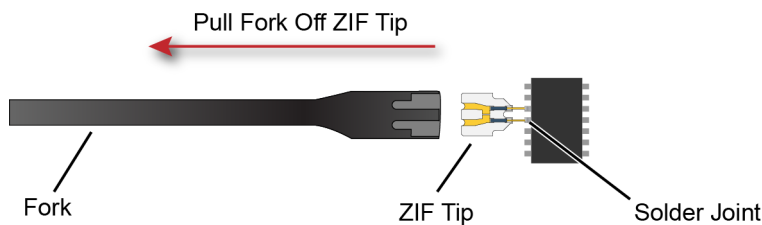

Figure 26 Removing the Handle from the ZIF Tip
- 6 Pull the ZIF handle from the ZIF tip in the direction shown in **Figure 26**. ZIF tips can be carefully handled with your fingertips and reinserted into a plastic handle if necessary.